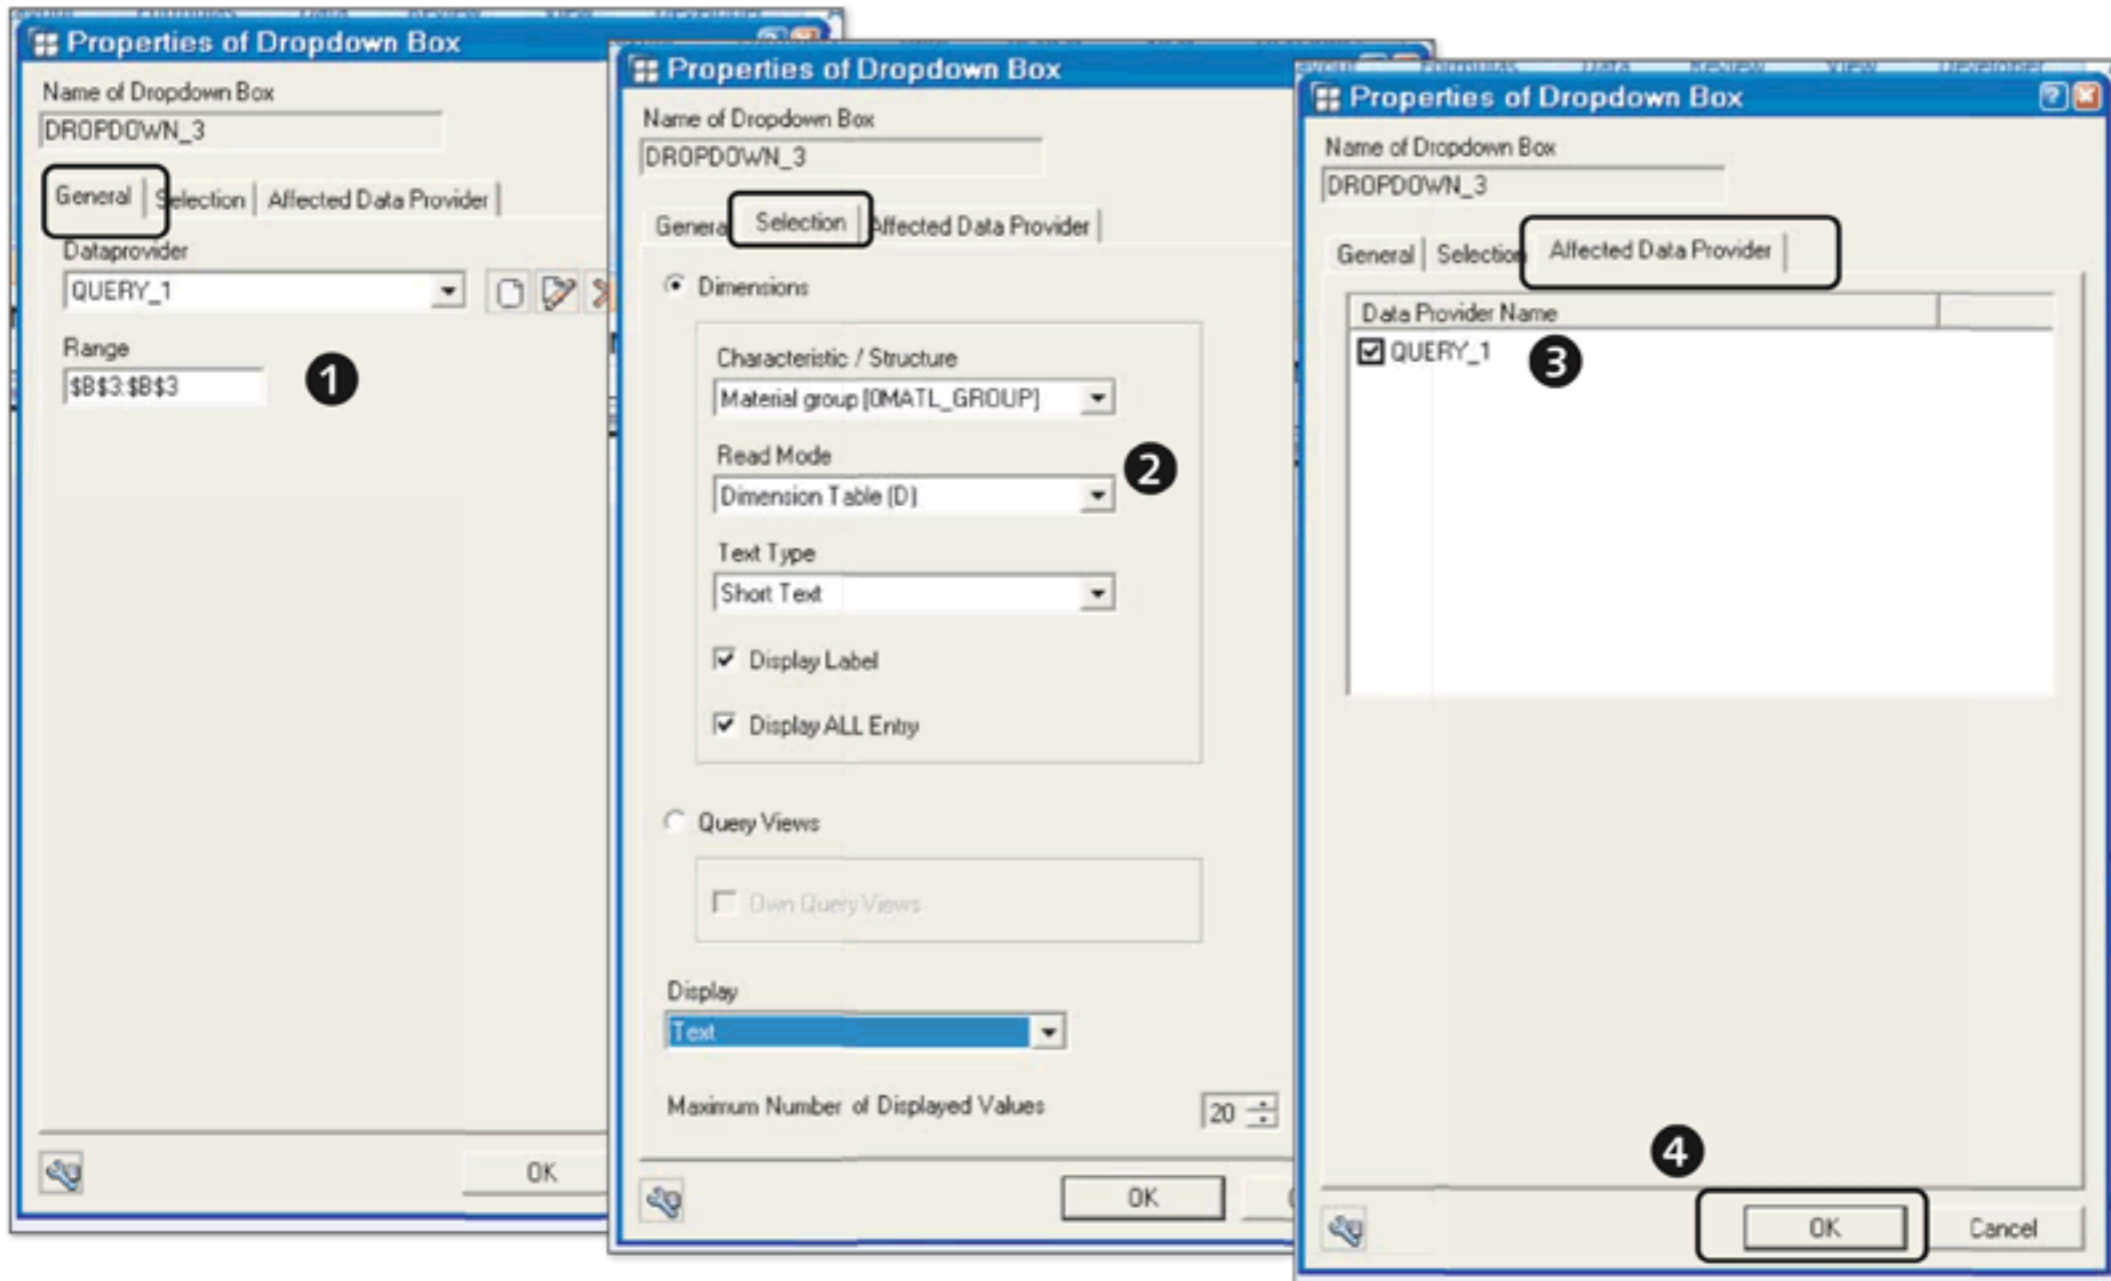

Figure 10.33 Set Properties for the Dropdown Box
Open the **PROPERTIES OF DROPDOWN BOX** dialog by double-clicking on the item. The **PROPERTIES OF A DROPDOWN BOX** dialog contains three tabs. On the **GENERAL** tab page (❶ of Figure 10.33), you assign the data provider to the dropdown and select the location of the dropdown in the workbook. On the **SELECTION** tab page (❷), you assign the specific query element (characteristic/structure) to the dropdown, and set the read mode of the characteristic. You can also maintain some display-related settings on this tab. For example, you can choose if you want to
If multiple query views are defined on a selected data provider, you can provide a dropdown box in the workbook that will give you a list of views created on that query. The user can then select a specific query view from this dropdown, and the affected data provider gets refreshed accordingly. To achieve this, you have to select the QUERY VIEWS option on the SELECTION tab of the PROPERTIES OF DROPDOWN BOX page (2 of Figure 10.33).